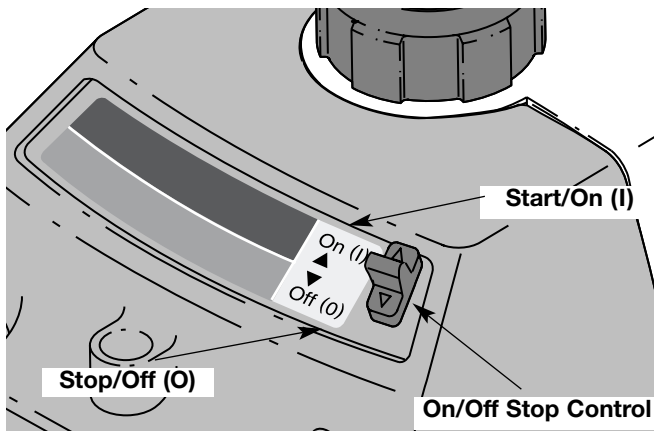

Figure 7
2. Put the On/Off Stop Control in the START (I) position. See Figure 7.
**NOTE:** Choking is unnecessary when starting a warm engine. Put the On/Off Stop Control in the START (I) position and start in PARTIAL Choke position (B |↘|). See Figures 7 and 8.